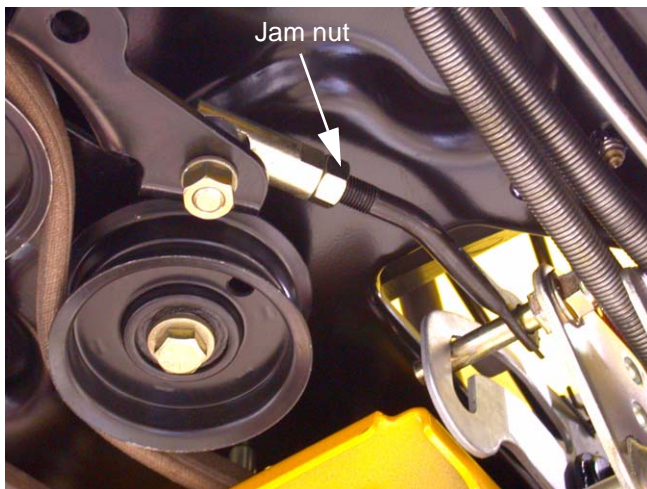

Figure 18.14
- 18.14. Loosen the jam nut that locks the speed control rod into the rod-end joint at the double idler bracket with a pair of 9/16" wrenches. See Figure 18.14.